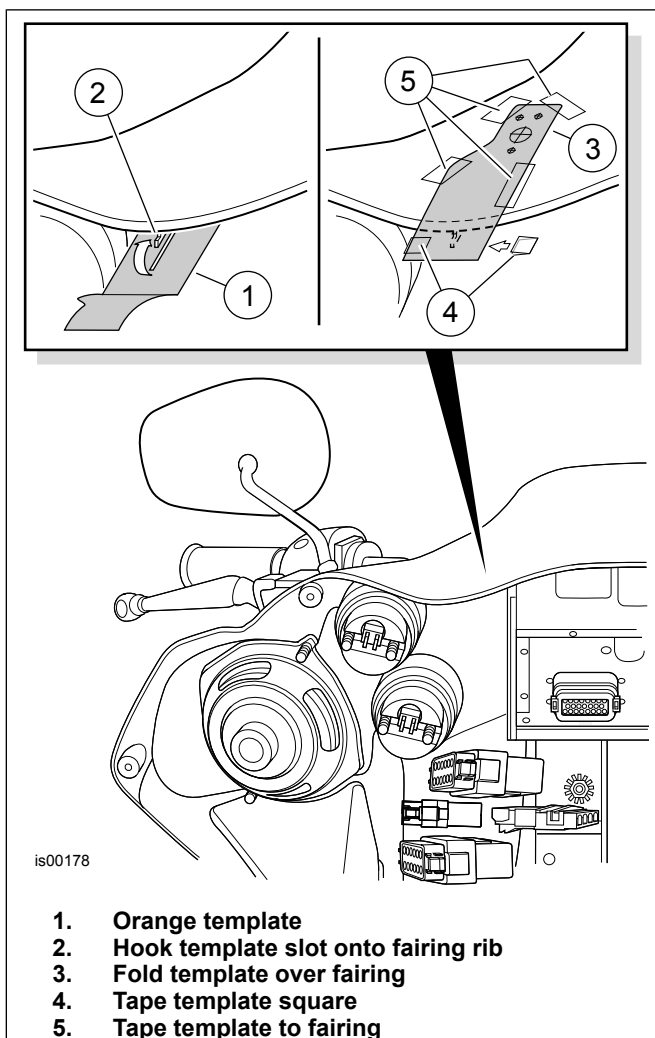

Figure 1. Position Template for Drilling
2. See Figure 1. Obtain the orange-colored drilling template (1) from the kit. Slide the slot (2) of the template over the rib on the underside of the inner fairing until the slot bottoms out against the forward edge of the rib. Fold (3) the template over the top of the fairing as shown. Tape (4) the two halves of the template together near the fold to ensure that the template remains square during the drilling process, then tape (5) the template to the fairing to hold it in position.